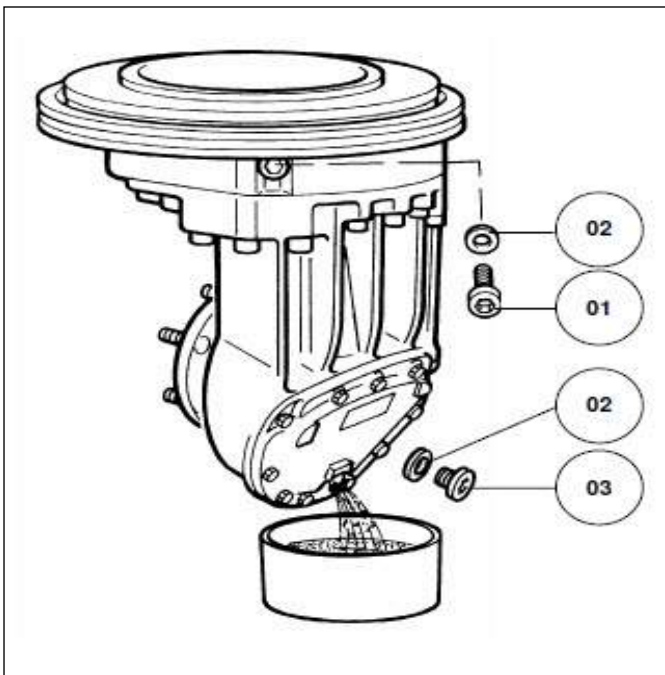

Figure 2-11: Draining the Gear Box
4. To drain, carefully clean the area around the oil filler and oil drain plug. **See Figure 2-11.**